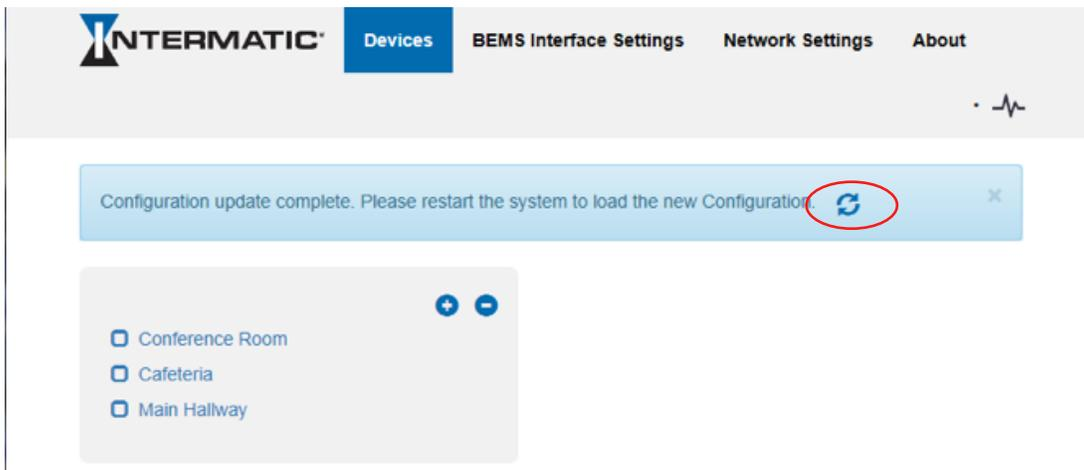

Figure 17: Web Configurator Showing System Restart to Load Configuration
- Completed additions will be listed under Devices. Once all devices are added select the 'restart system' icon to load the new configuration into the ET9500. See **Figure 17**.